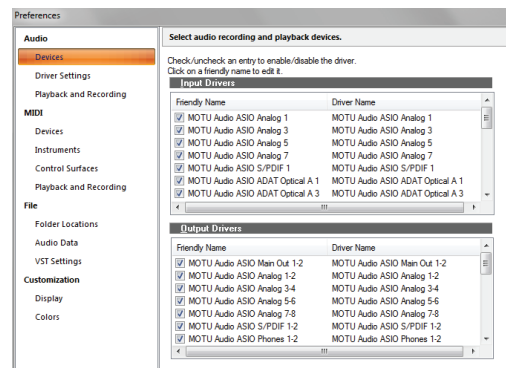

Figure 7-8: Enabling inputs and outputs in SONAR.
- 5 Check the 828mk3 Hybrid inputs and outputs that you wish to use and uncheck the ones you don't, as shown in Figure 7-8 on page 55.